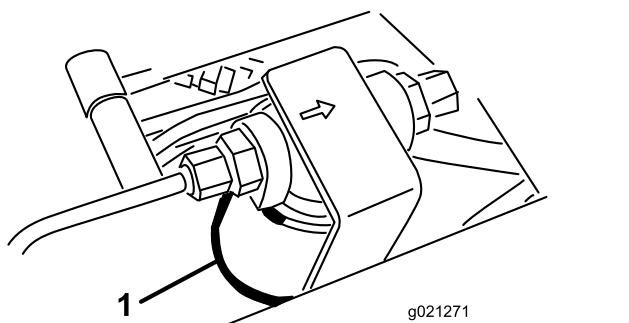
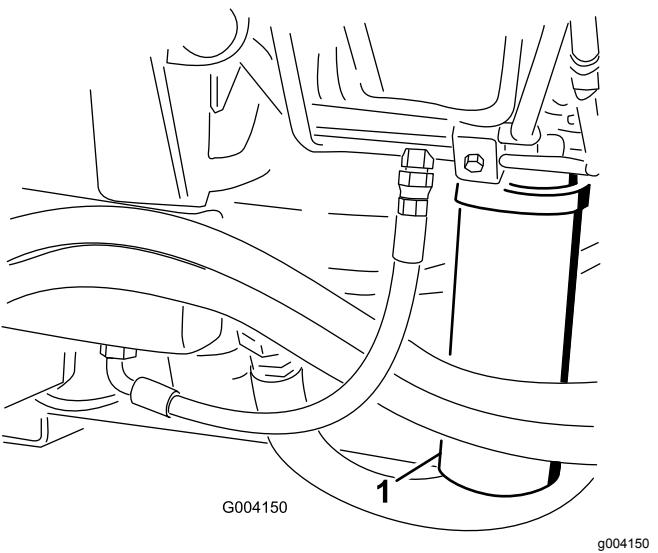

Figure 88
Figure 89
- Clean the area around the filter mounting area and place a drain pan under filter (Figure 88) and (Figure 89).